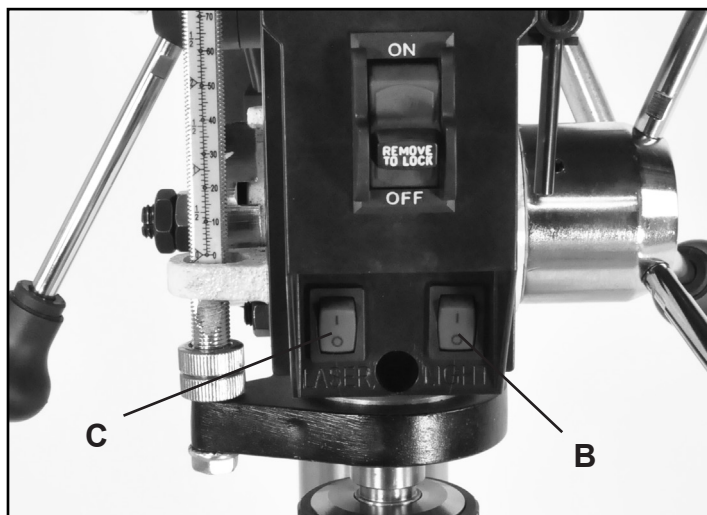
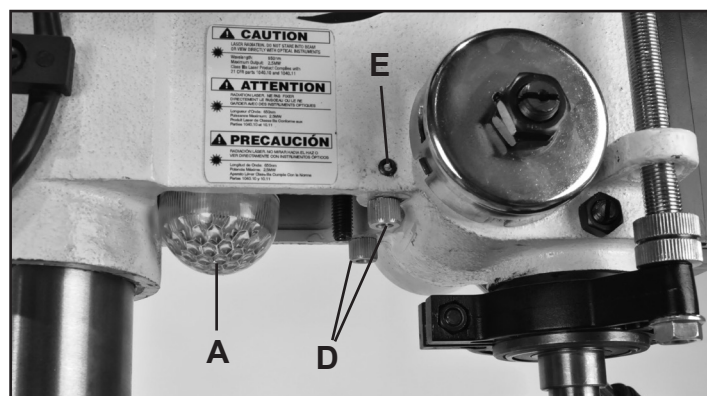

FIG. 24
FIG. 25
LED LIGHT SWITCH The drill press includes a special LED Bulb (#53) that is located under the head casting by the column to best light your work from behind to eliminate shadow interference (FIG. 25, A). The light's ON/OFF switch is located on the lower front of the drill press head, the switch on the right side. FIG. 24, B.
LASER LIGHT SWITCH is also located on the lower front panel to the left of the LED light switch (FIG. 24, C). This switch activates the two X-Y laser pointers (#51) that are safely located under the head casting behind the chuck. FIG. 25, D.
6. Each laser setting is secured with a hex screw (#8) located on the side of the head casting - just behind the Handle Hub (#86) or Spring Cap (#61). FIG. 25, E. With the supplied 3mm hex wrench, loosen the hex screws so the lasers can be adjusted.